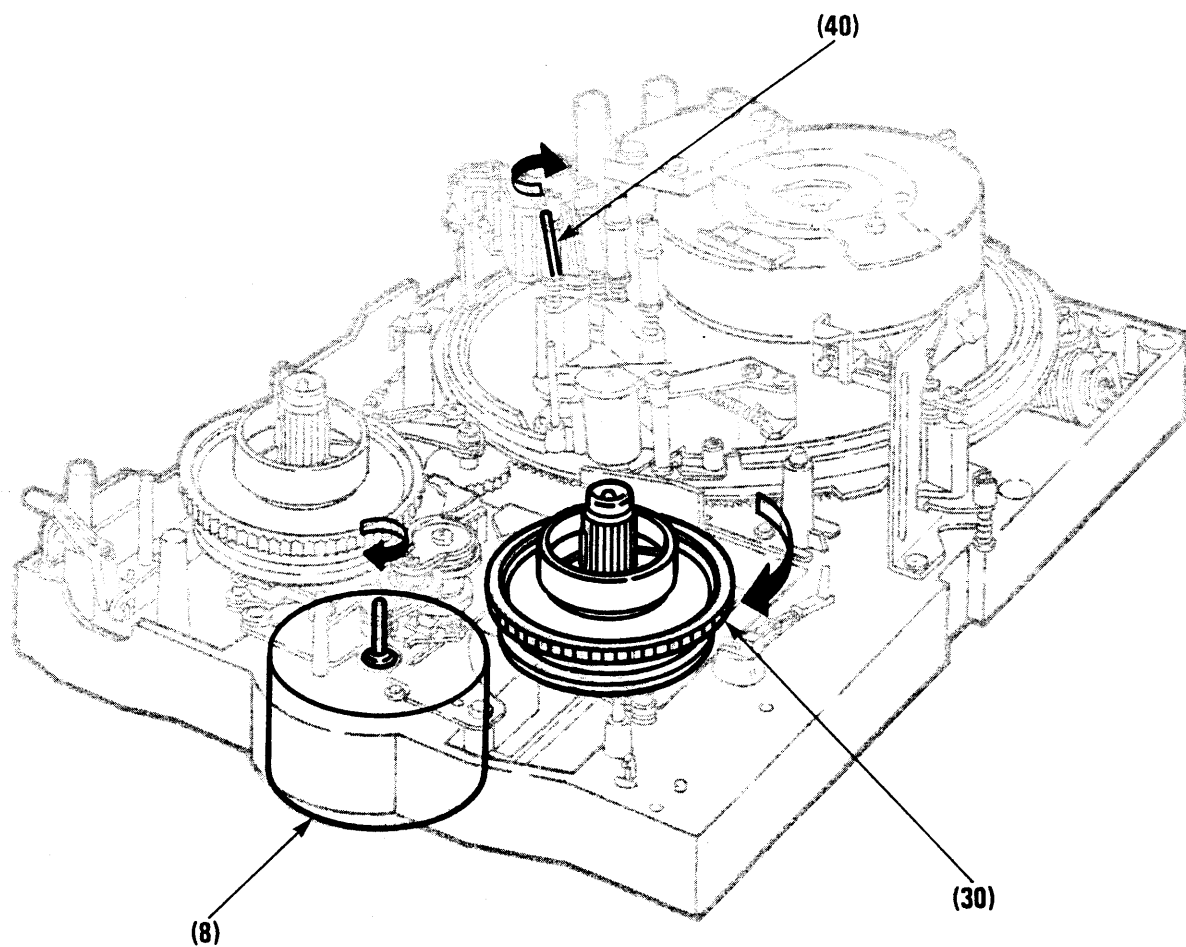

Fig. 3-3-17 F-SEARCH mode
4. F-SEARCH MODE (See Fig. 3-3-17.)